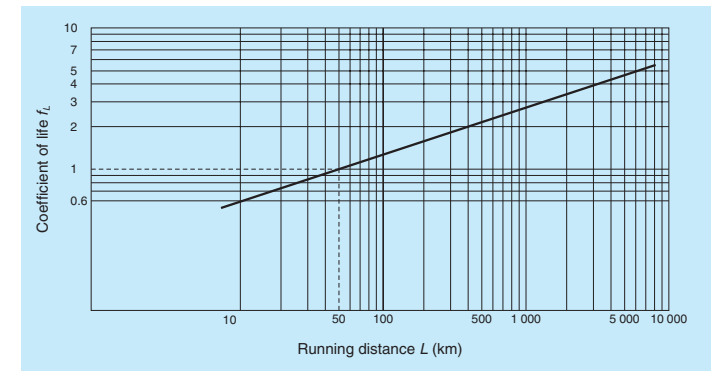
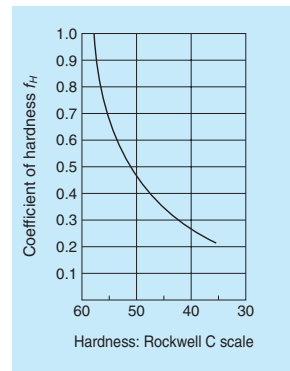

Fig. 4 Relationship between life factor and running distance
Fig. 5 Hardness factor
- P : Radial load (N)
- f_L : Life factor (Refer to Fig. 4)
This formula is used provided that the shaft hardness is HRC58 or higher. Rated life is shorter if the shaft is softer. In this case, find the hardness factor *f_H* from Fig. 5, and multiply the value.
From Fig. 4 and Fig. 5,